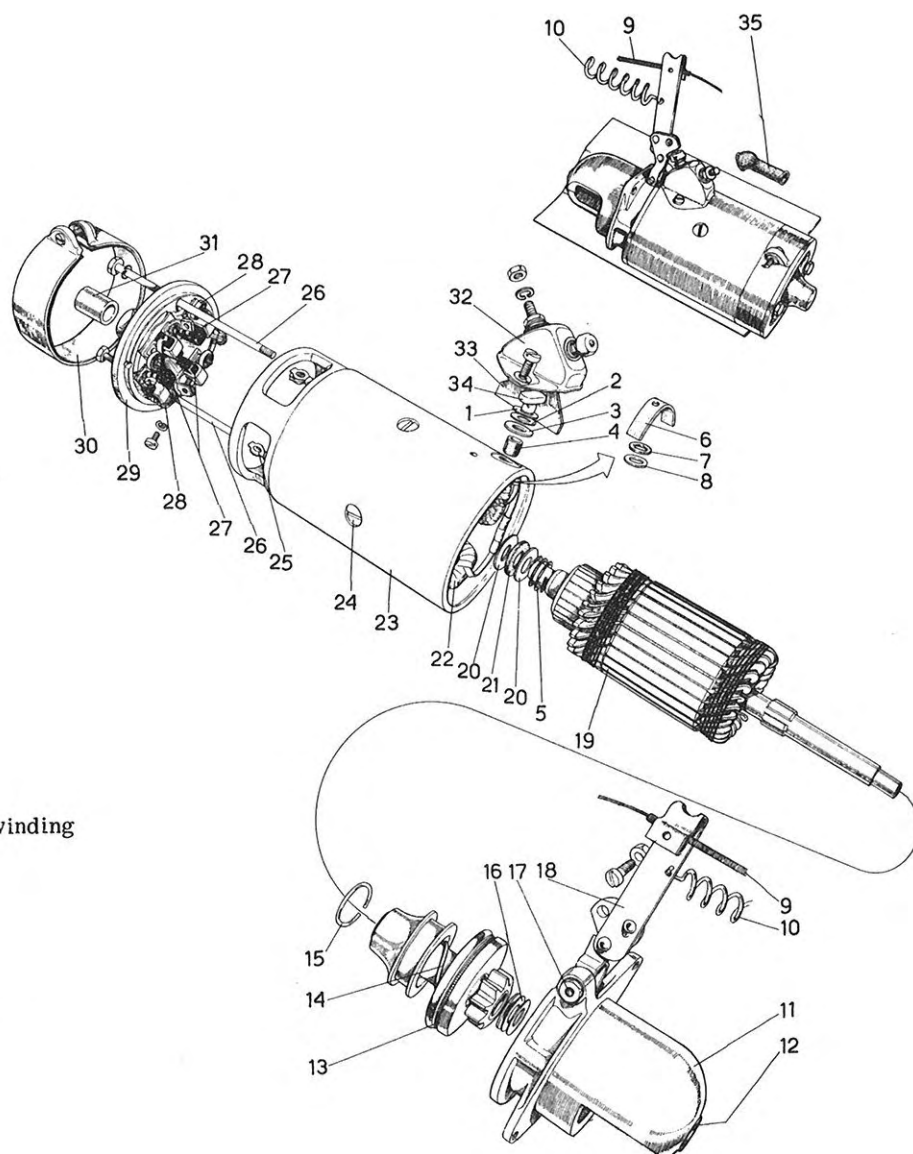

Fig. 16. Starter.
1. Remove cover band over brushes, see Fig. 16.